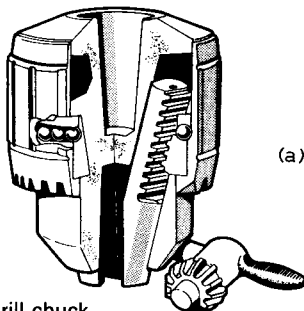

Fig. 4.83 Drill chuck
**Holding the drill.** The drill must be firmly held in the drilling machine chuck, Fig. 4.83, so that it is perfectly steady as it rotates. The figure shows a chuck for holding small drills with parallel shanks. It is opened and closed by means of the key. The chuck must be perfectly clean before fitting the drill or the drill will not run true.